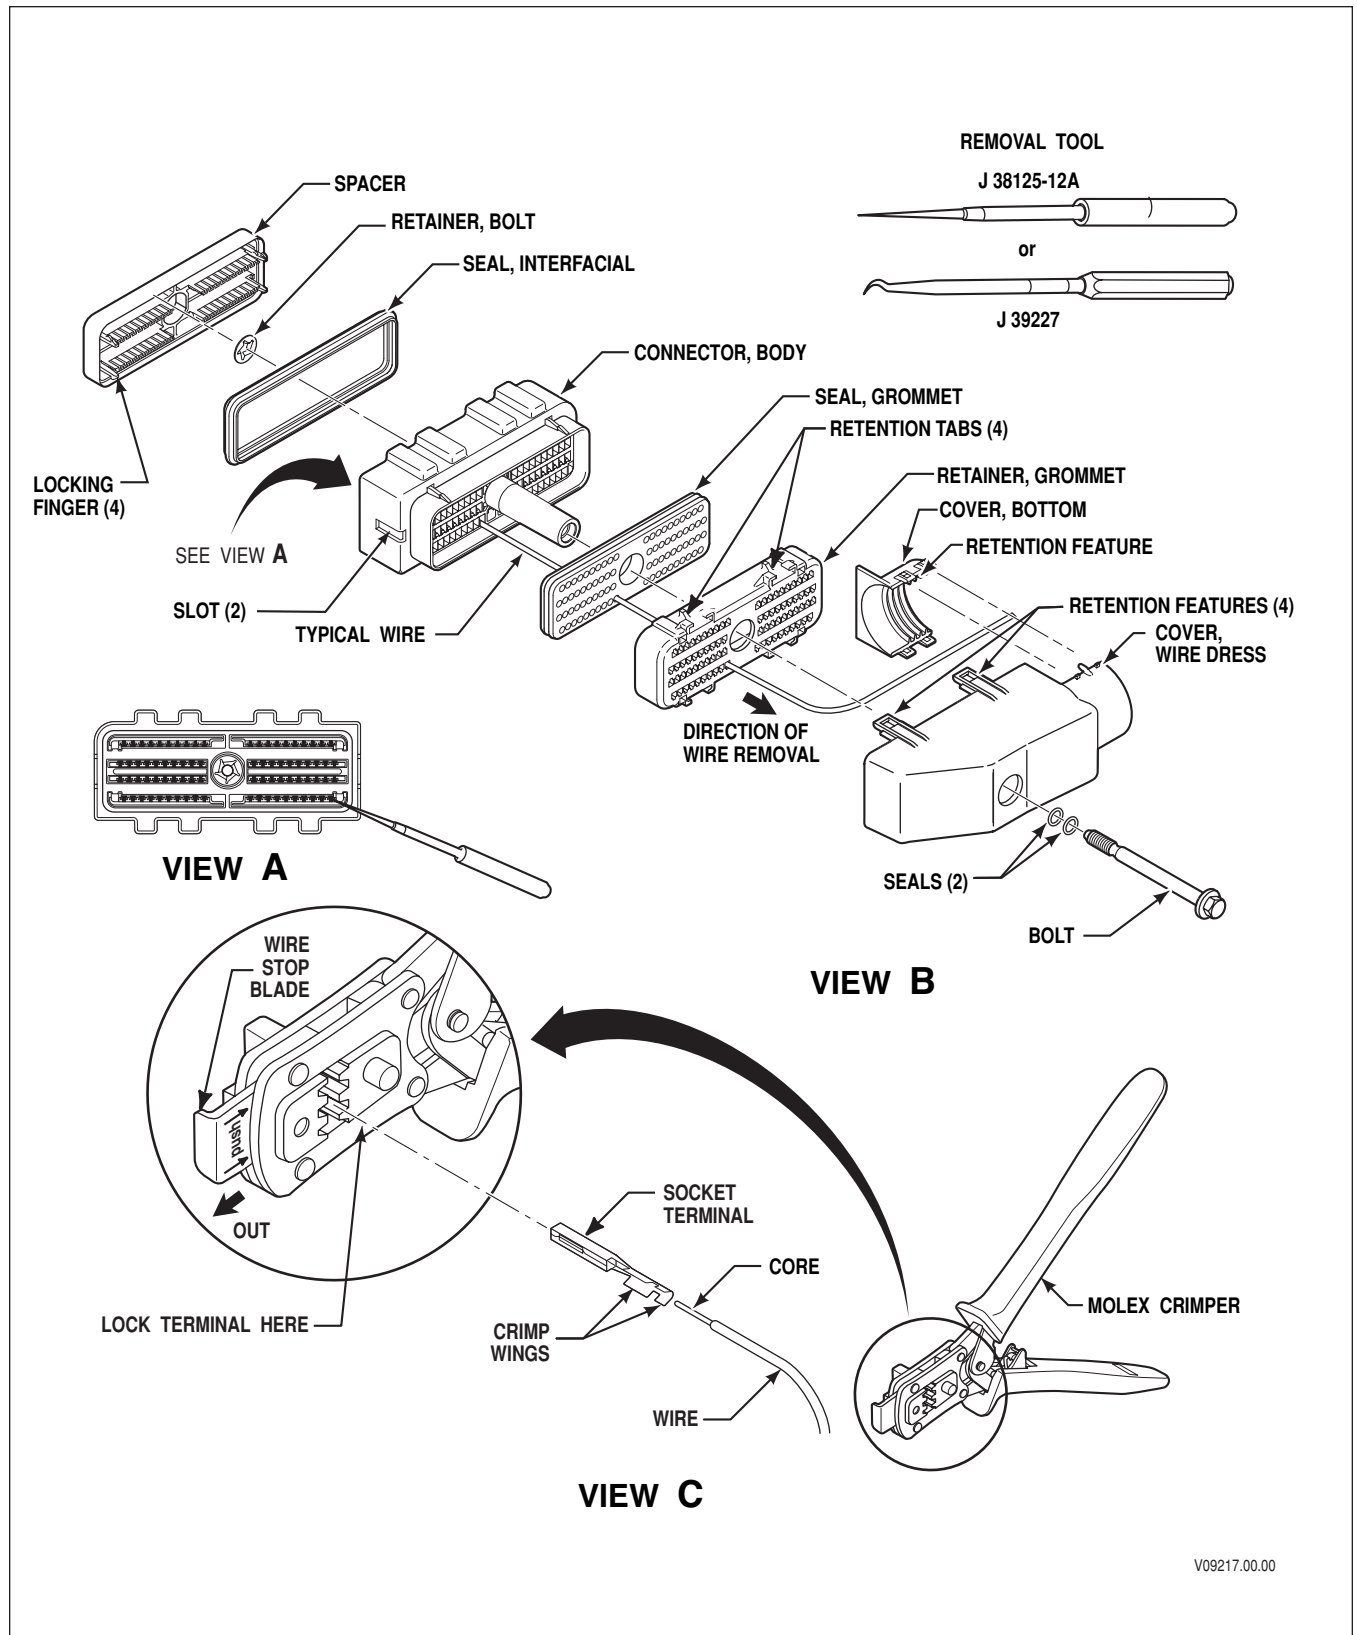

Figure E-1B. AFL 80F Bolt-Assist, Direction 'A' 90 Degree TCM Connector
### B. TCM Connector, Assembly 80F Bolt Assist, Direction 'A' 90 Degree Wire Dress (refer to Figure E-1B)
- Refer to Figures E-1B or E-1C, View B. Use a small-bladed screwdriver to gently unlatch the retention features (2) of the wire dress cover and remove it from the backshell wire dress. Gently release the retention features (4) of the backshell wire dress and remove it from the connector body.